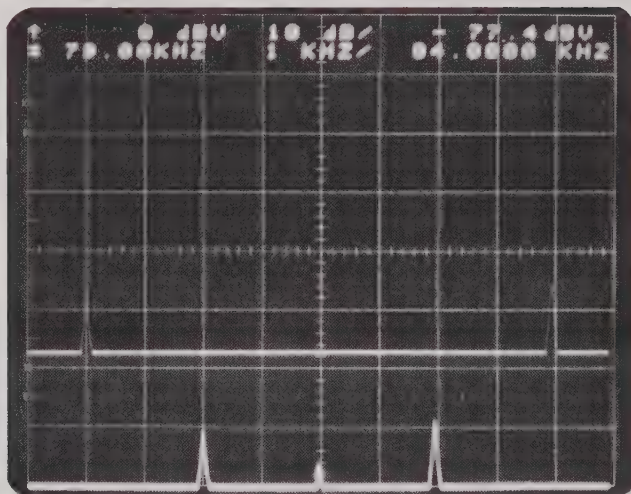

Fig. 4-13b Display of Foreground and Stored Trace
- e. Move the CURSOR POSITION to the center of the screen at 84.000 KHz. Rotate the RESOLUTION knob to 50 Hz. The SPAN is now 10 KHz starting at 79.00 KHz, but still centered at 84.000 KHz (Fig. 4-13b). The asterisk (*) near the top of the screen, indicates that the two traces correspond to analysis with different front panel settings.